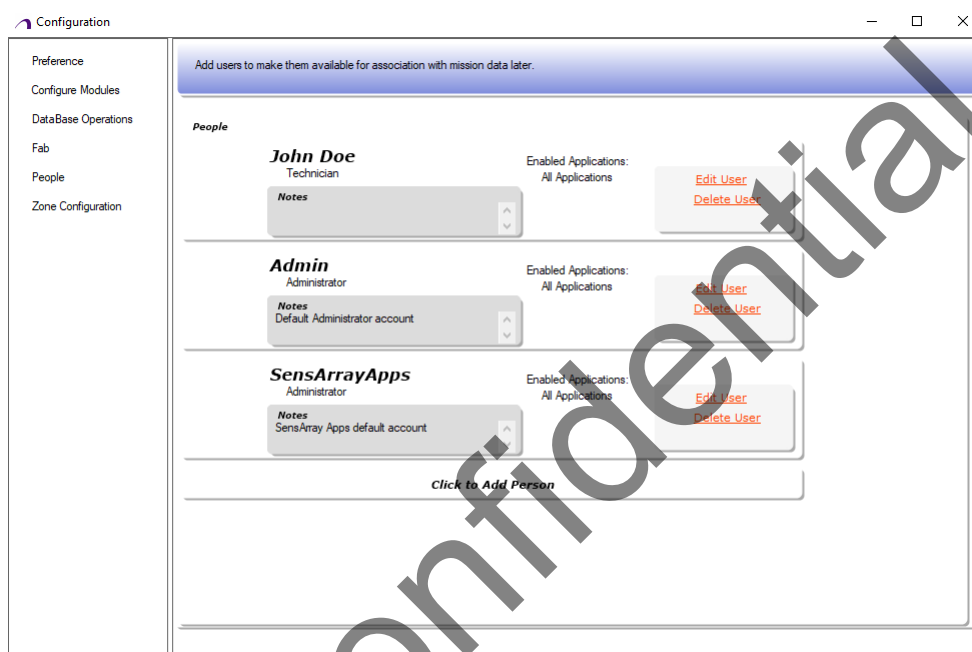

Figure 5-16 Configuration window – People tab
1. Click **People** from the **Configuration** window. You can see the **People** section will open, as shown in Figure 5-16.